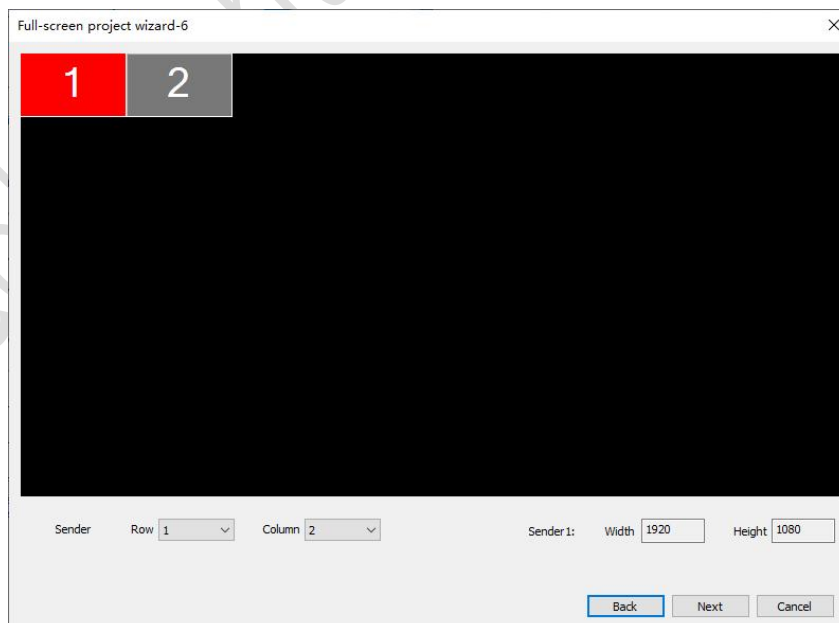

Fig 3-17 Sender layout settings
- When Calibration Pro has detected more than 1 sender, you will need to set the sender layout before continuing the wizard-6. See Figure 3-17.